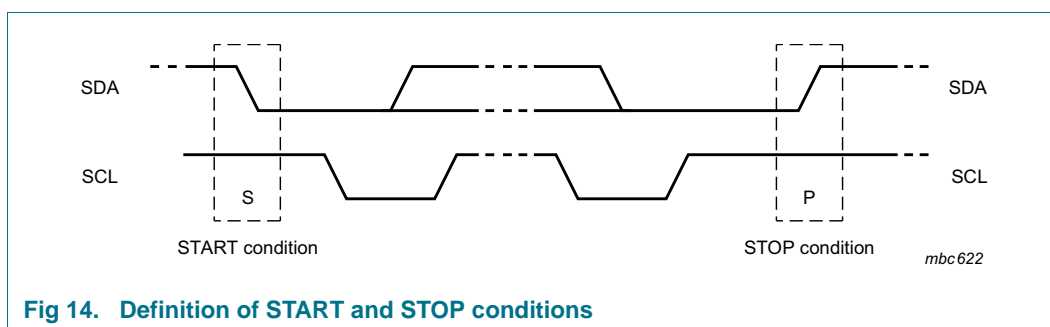

Fig 14. Definition of START and STOP conditions
Both data and clock lines remain HIGH when the bus is not busy. A HIGH-to-LOW transition of the data line, while the clock is HIGH is defined as the START condition (S). A LOW-to-HIGH transition of the data line while the clock is HIGH is defined as the STOP condition (P). The START and STOP conditions are shown in Figure 14.